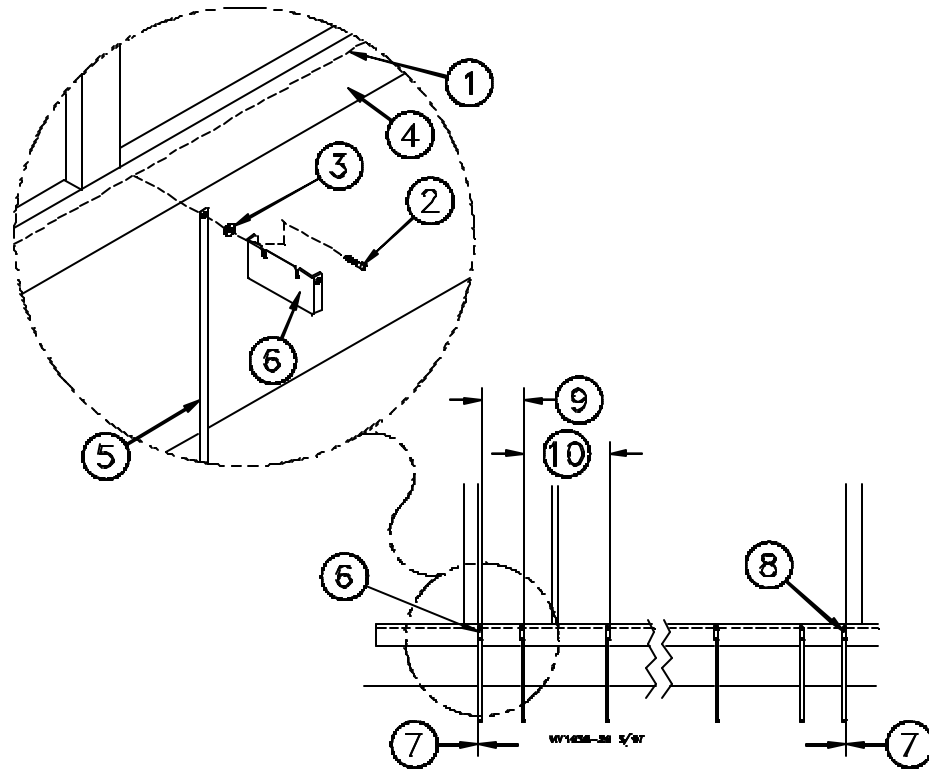

Figure 4. Trough Support and Hanger Installation
The first and last Trough Supports must be positioned flush with the inside of the framed opening. The bolt hole should be aligned on the chalk line. See **Figure 4**.
The next Trough Support (at the sump end) must be positioned in 10" (25 cm). See **Figure 4**.
- Loosely secure the Trough Hangers, Trough Supports, and plastic washers to the lower stringer, as shown in **Figure 4**, using the 5/16 x 1-1/2" stainless steel lag screws.